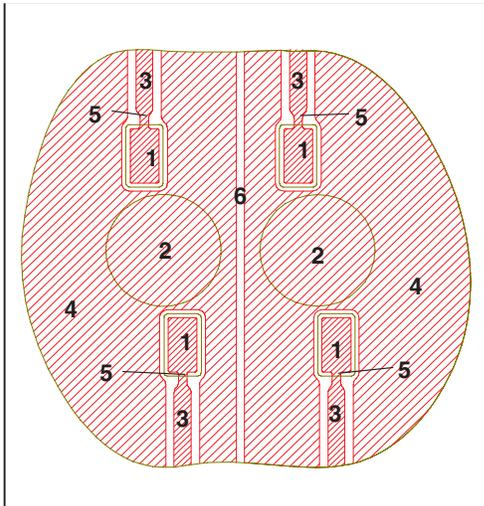

Figure 5: Assuring Electrical Insulation of the Slugs from Neighboring Emitters and Solder Pads.
2. Electrical insulation between the slug and the MCPCB is required. The slug of a LUXEON Emitter is not electrically neutral. Do not electrically connect the slug to any trace or pad on the board (see figure 5).
- The copper pad areas for the LUXEON Emitter slug must be insulated from the solder pads and other slug pad areas, because the slug is not electrically isolated (see figure 5).
Key for Figure 5: